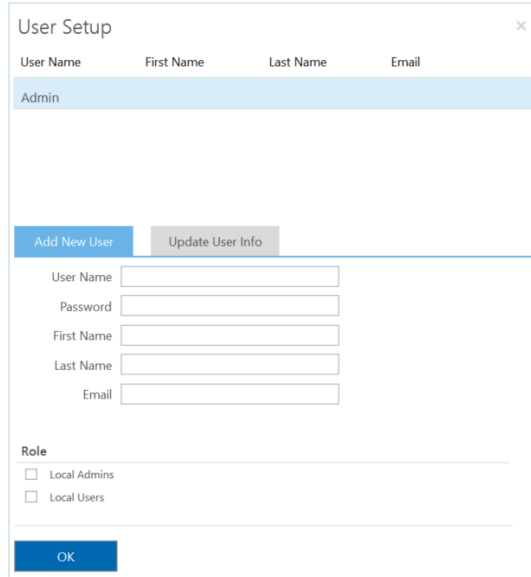

Figure 28: User Setup Window
2. The User Setup window will popup (Figure 28). To create a new account, input **Username, Password, First Name, Last Name, and Email**. Select **Local Admins** or **Local Users** under the **Role** section to set account type. Press **OK** to complete account setup.